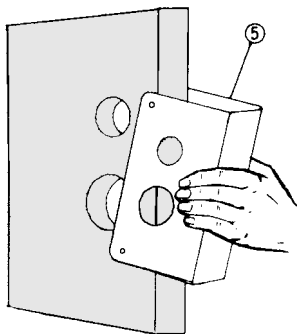

Figure 13.139 Line up the Adjust-A-Lock unit when fitting into the door. (M.A.G. Engineering and Mfg., Inc.)
4. Slide the unit (5) over the door and position both holes to line up with the holes in the door (Fig. 13.139).